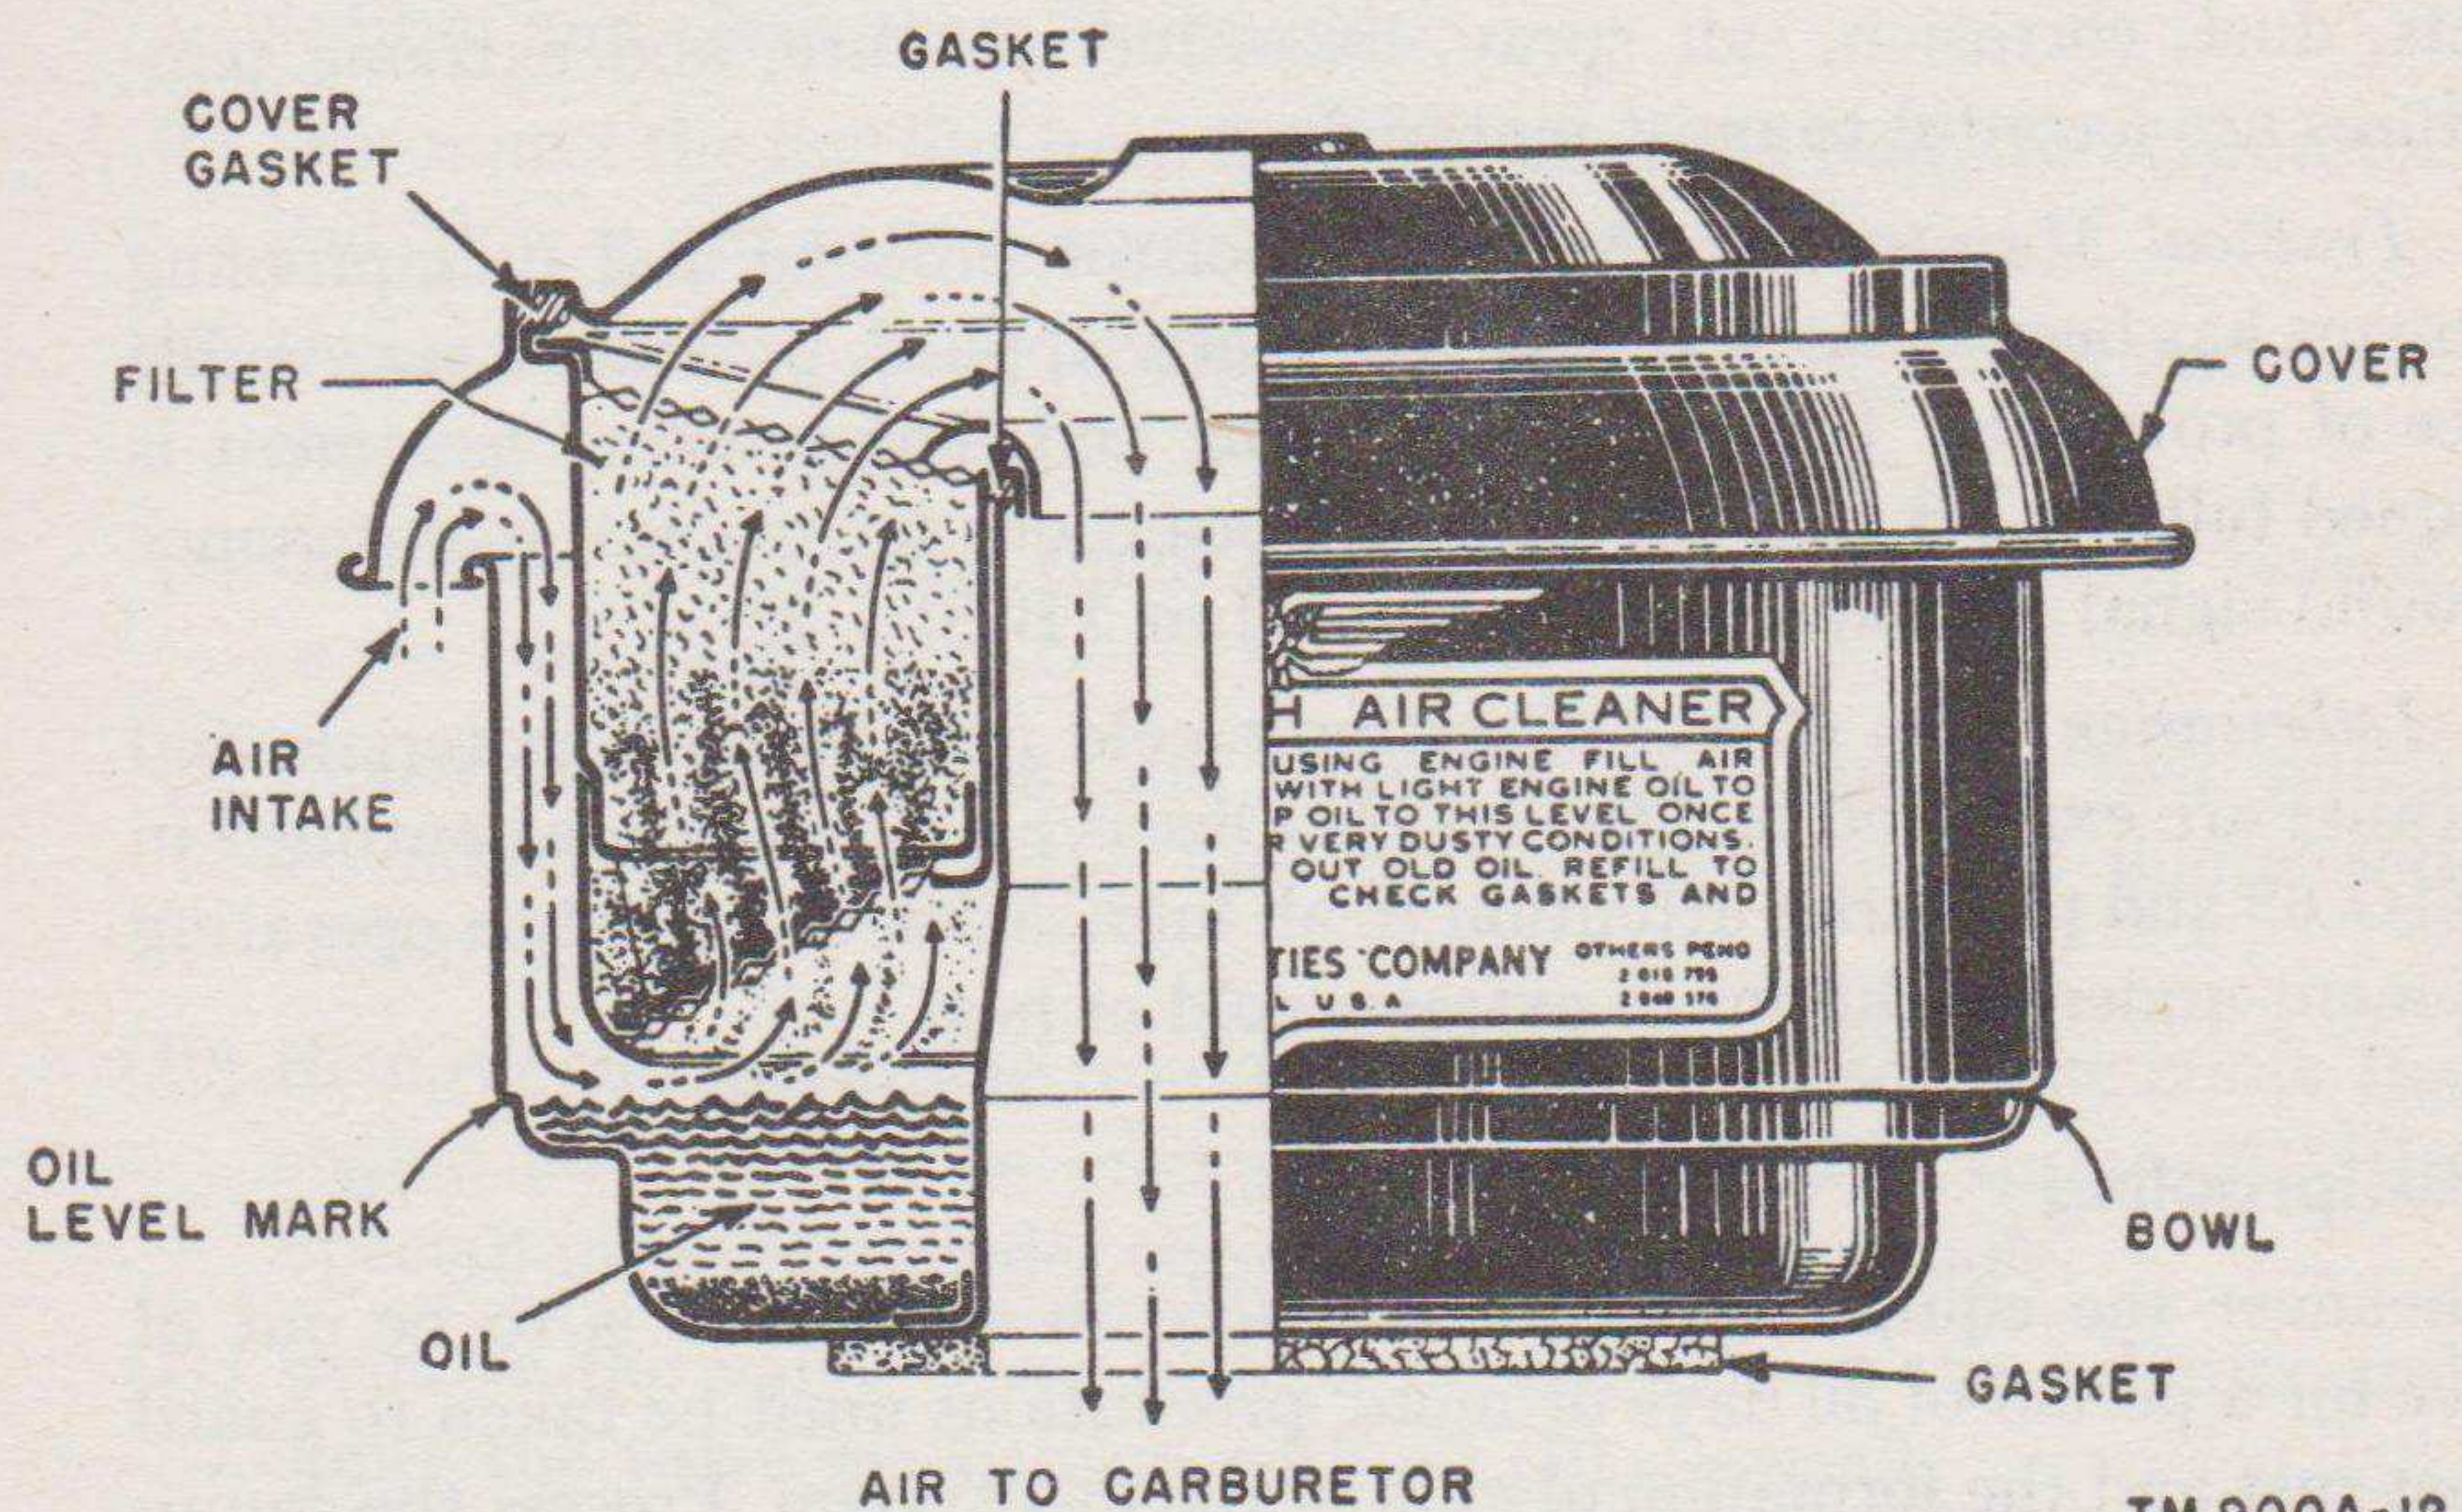

Figure 11. Typical oil-bath air cleaner, cross-sectional view.
b. *Daily Lubrication.* Each day, before starting an operating period, inspect the condition of the oil and the level of the oil in the oil-bath air cleaner (fig. 11). Add oil to bring the level up to the level mark. Inspect the